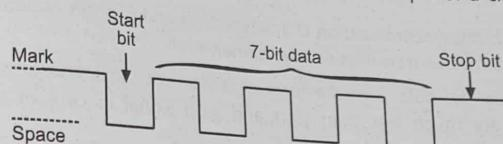

Fig. 3.3: Asynchronous transmission with start and stop bit
- To understand asynchronous transmission, consider example of a character as shown in below Fig. 3.3.
- As shown in the Fig. 3.3 a start bit is transmitted to indicate the beginning of the word. It is a binary '0' or space as shown in Fig. 3.3.